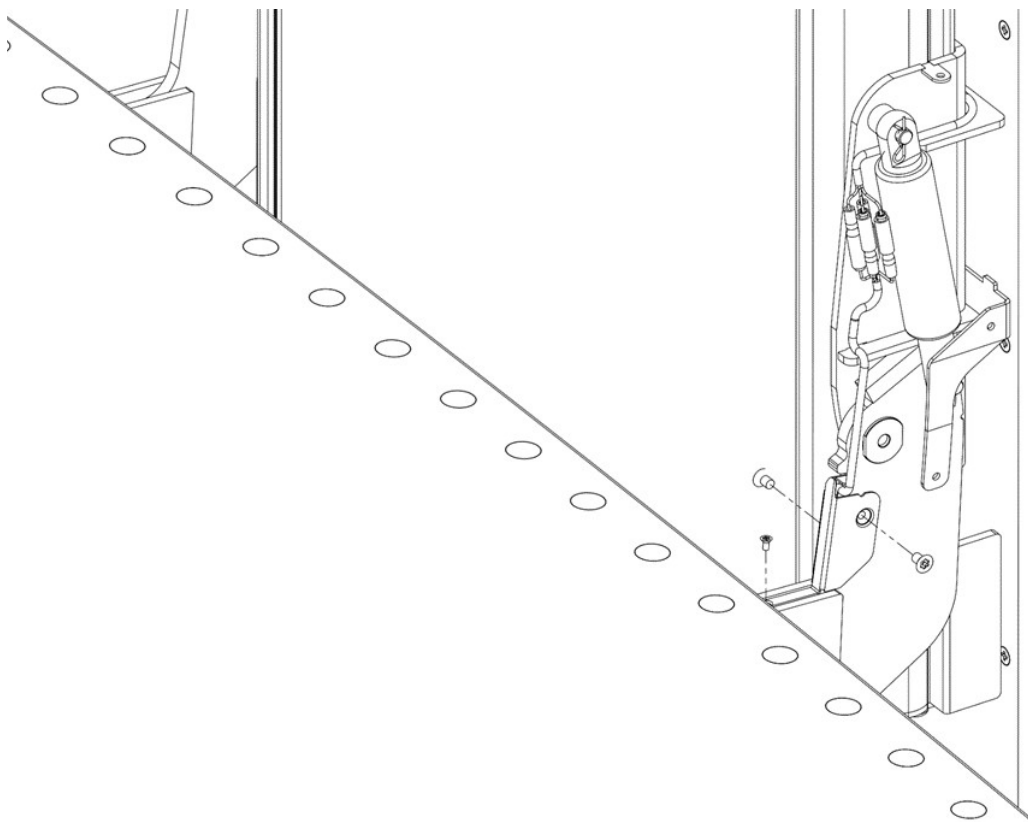

Fig 12.10
- Using the tools provided and the security fasteners, install the cable cover. The two horizontal screws are M5 x 8 mm and one vertical is M3 x 6 mm as shown in Fig 12.10.